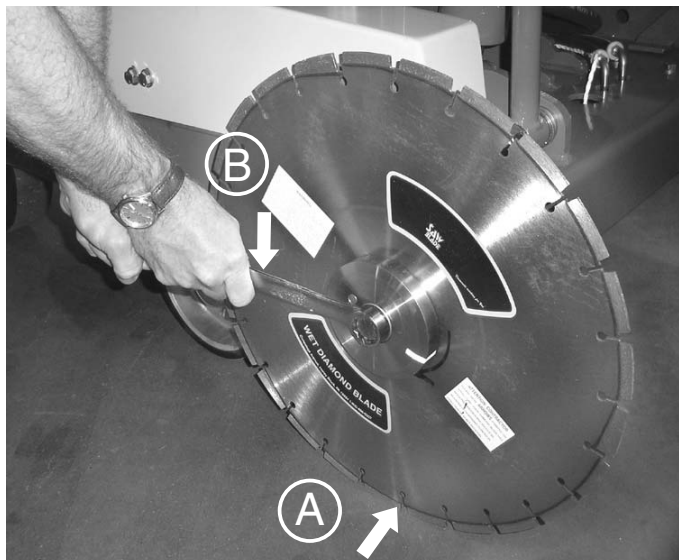

Figure 14. Torque Flange Bolt
6. Lower the blade to the ground surface (A in Figure 14) to prevent blade from spinning and tighten the mounting bolt to 125-175 ft. lbs. (169.5 - 237.3 Nm) of torque. (Item B in Figure 14.)